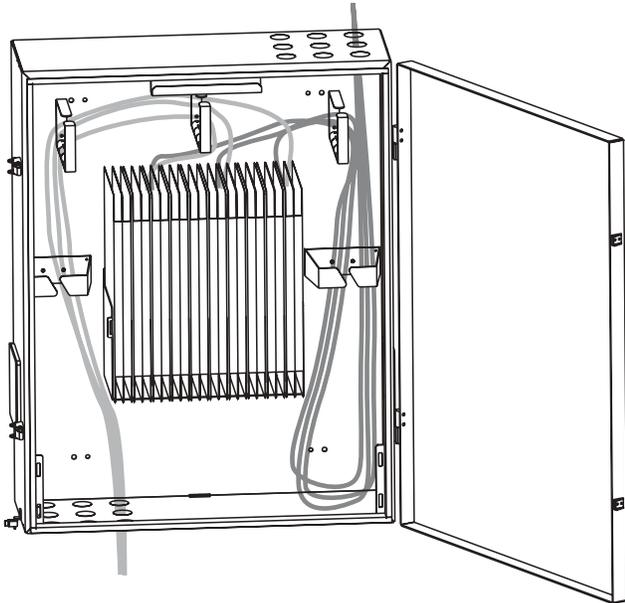

Figure 15
8.2 Route fibers around unit and into splice cassettes as shown in Figures 15 or 16. Ensure routing does not violate minimum bend radius of the fiber or prevent the removal of the splice cassettes.